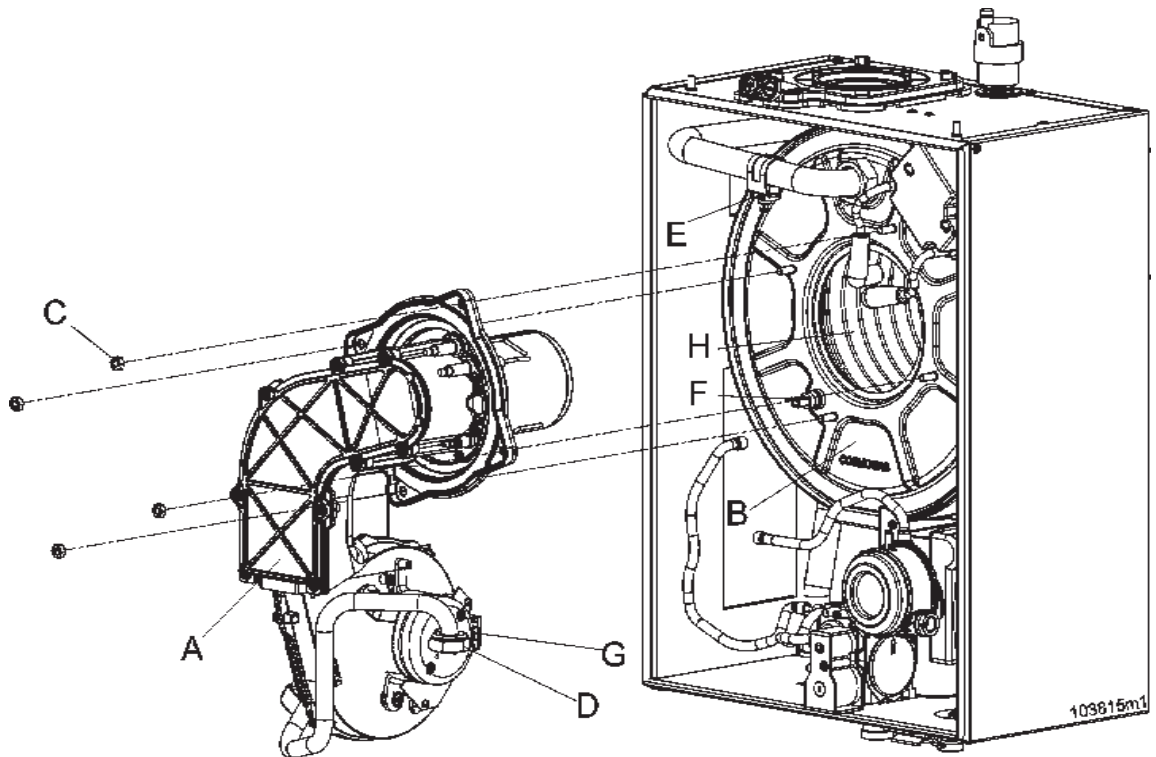

Figure 46 - Remove the fan-burner assembly unit
- disconnect the wire from safety sensor "F" in figure 46;
- unscrew the four nuts "C" in figure 46;
- remove the entire fan - burner assembly, detail "A" in figure 46;
- use a cylindrical brush with plastic bristles to clean the inside of the combustion chamber, detail "H" in figure 46;
- use a vacuum cleaner to remove any unburned residue from the combustion chamber, detail "H" in figure 46;
WARNING!!! while performing the next step, carefully wash only the inside of the combustion chamber "H" of figure 46, and do not get water on the outside of the combustion chamber opening. Failure to comply with this warning can cause extensive property damage, severe personal injury or death!
- using only water, wash the inside of the combustion chamber, detail "H" in figure 46. The water, will drain into the condensate drain;